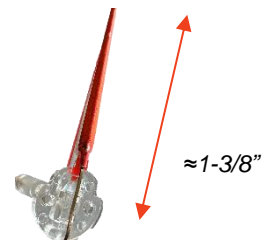

Figure 3 Needle
- Overlay original needle onto the supplied needle with epoxy as shown in Figure 3